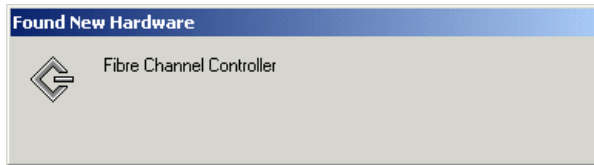

Figure 5-15 Windows finds new hardware
6. Active PCI Manager updates its display to reflect the addition of the adapter, and we see the operating system recognize the addition of the adapter, as shown in Figure 5-15.